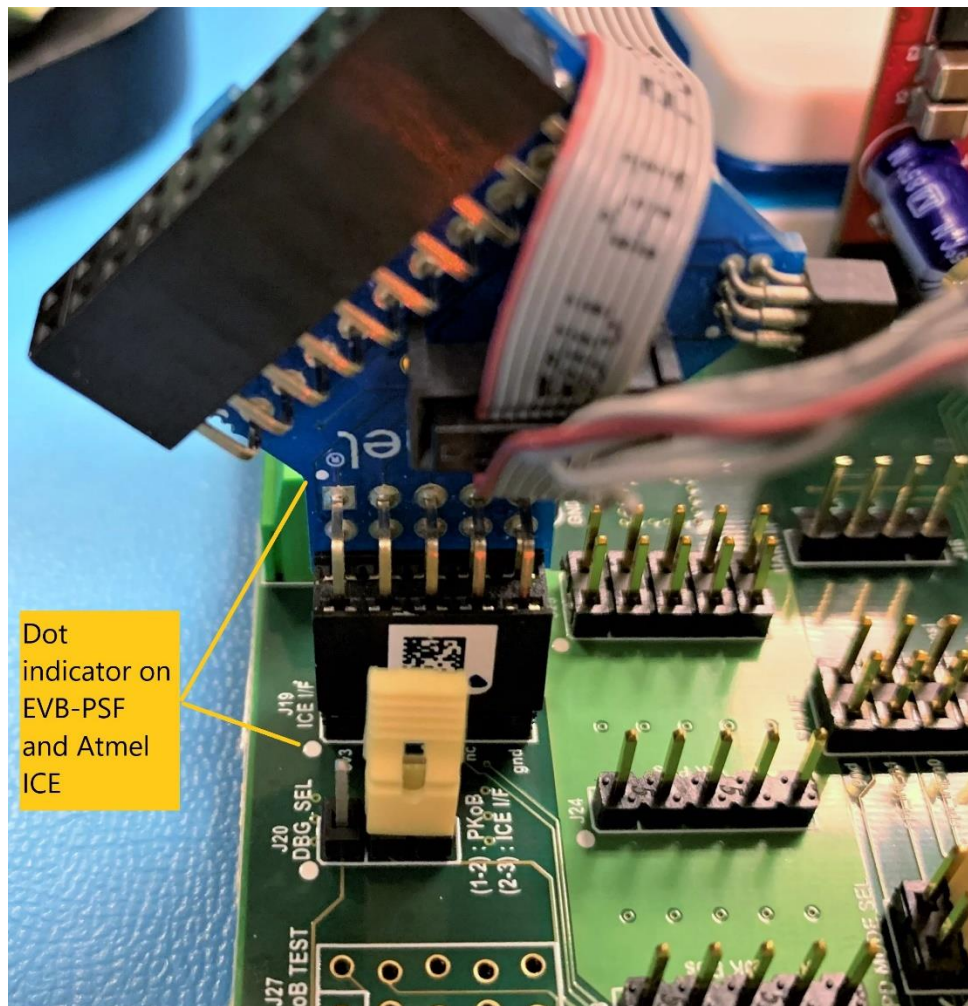

Figure 5.5 Programming using Atmel ICE (Optional)
6. Optionally, Atmel ICE can also be used for programming the board by connecting it to J19 as shown in the figure 5.5. Please ensure the jumper is switched to 2-3 on J20 while using Atmel ICE.